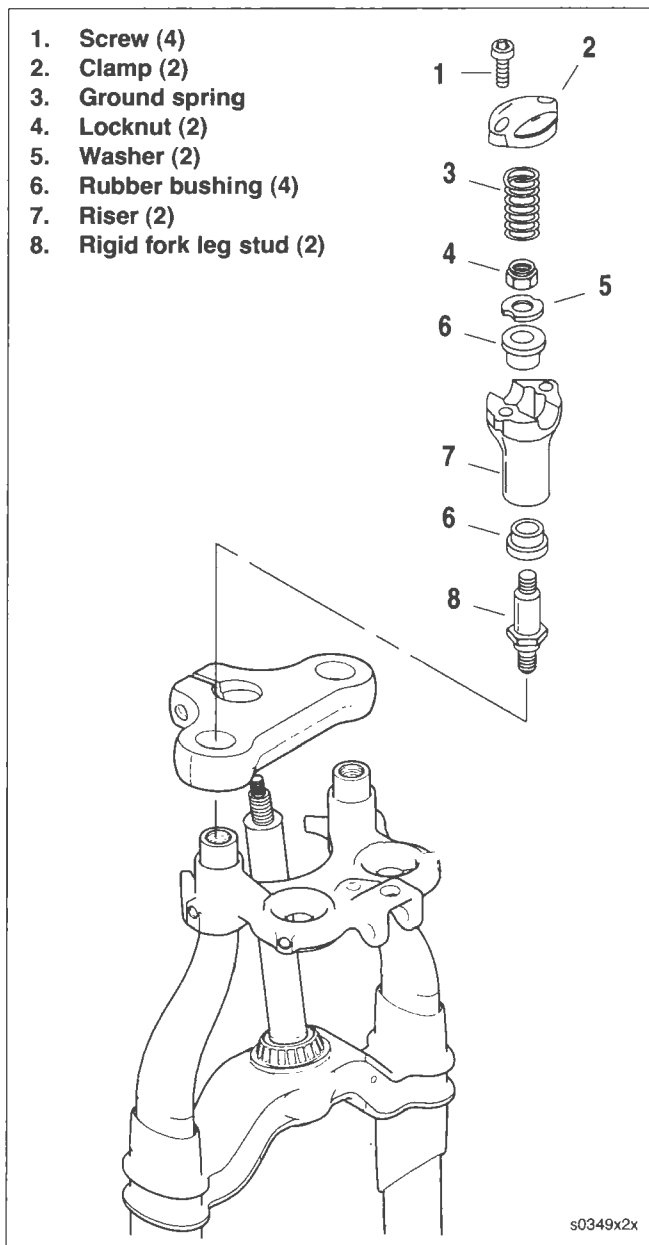

Figure 2-91. Spring Fork Handlebars
1. See Figure 2-91. Remove handlebar riser screws (1) and riser clamp (2). Remove handlebars.
2. One of the risers contains a ground spring (3) which provides an electrical ground for the front turn signals. Remove ground spring.
3. Remove riser locknuts (4) and washers (5). Discard locknuts.
4. Remove the risers (7). If necessary, remove the riser rubber bushings (6) and rigid fork leg studs (8).
1. See Figure 2-91. If you removed the rubber bushings (6), lubricate the outside of the bushings and install them in risers (7). Be sure the lip on the bottom rubber is fitted into the recess in the bottom of the riser.
2. Place the risers (7) in position over the rigid fork leg studs (8).